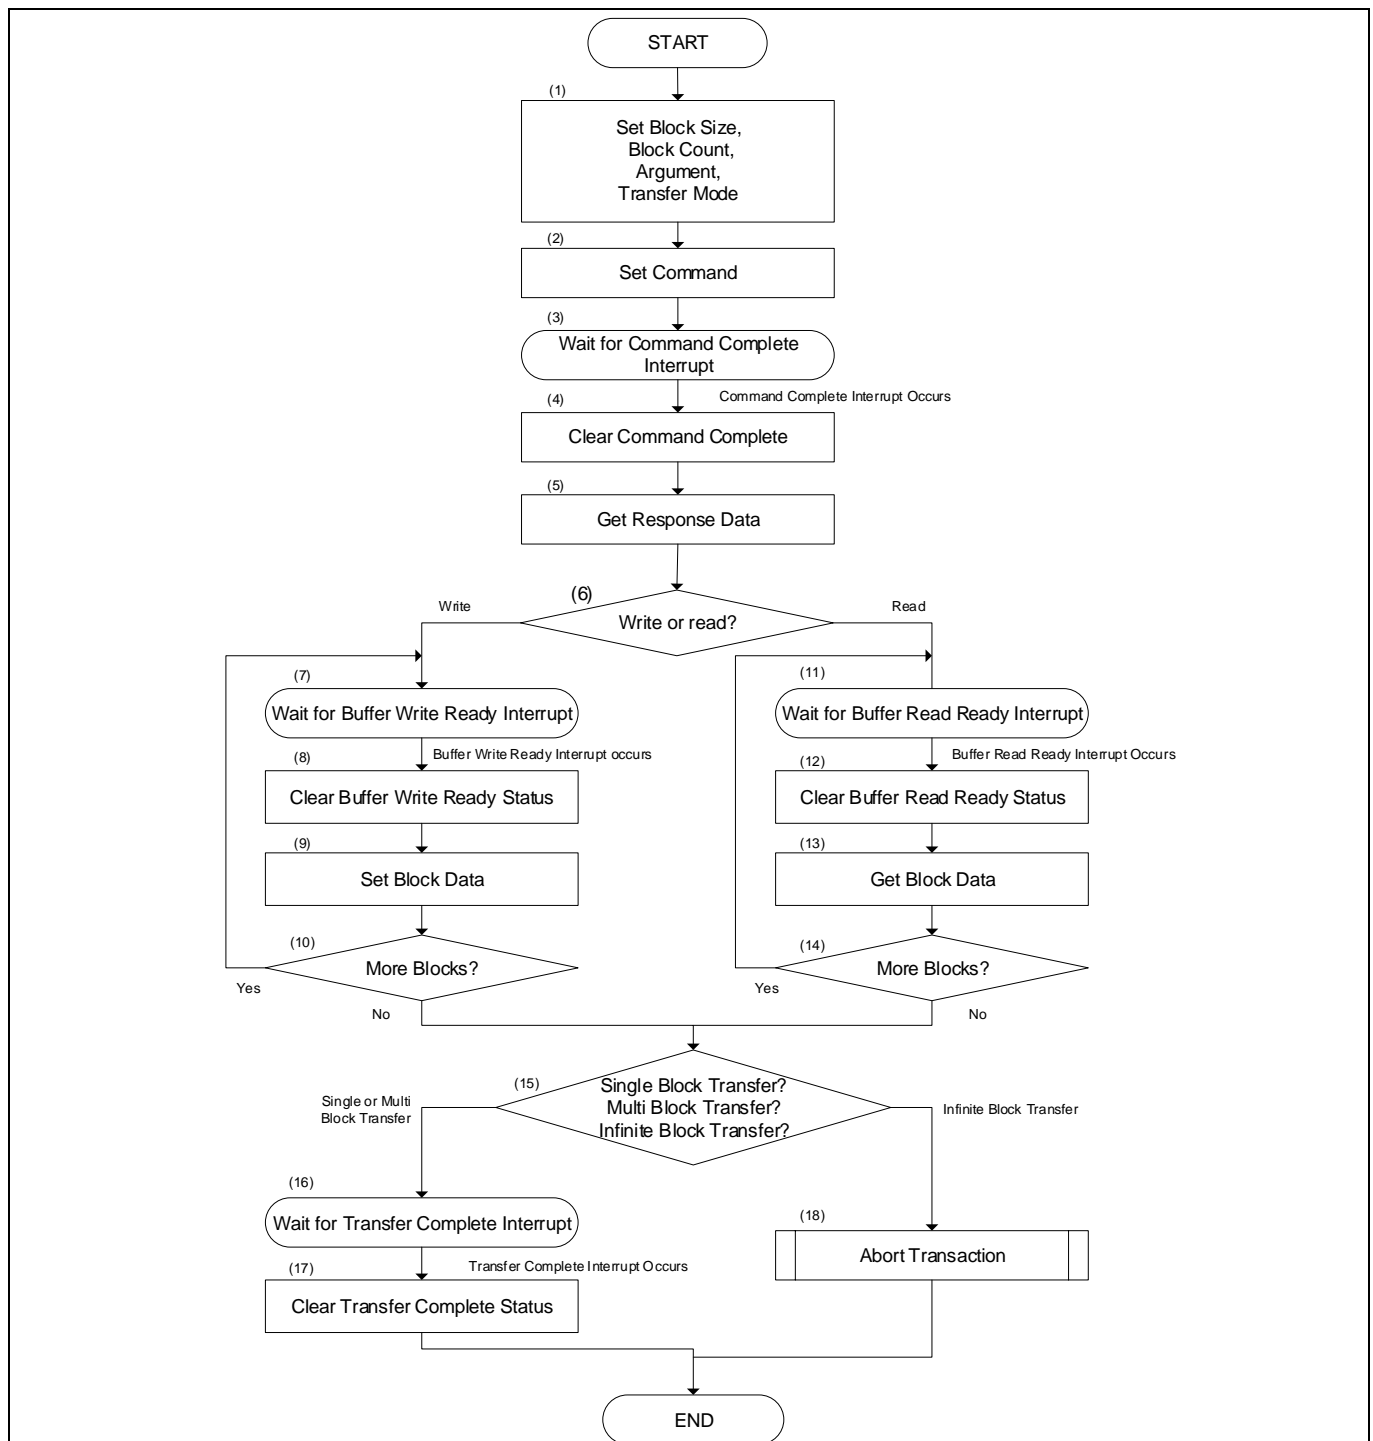

Figure 1 Data transaction sequence without DMA
- The sequence without using DMA transfer is shown in Figure 1
Figure 1 shows the data transaction sequence without DMA.